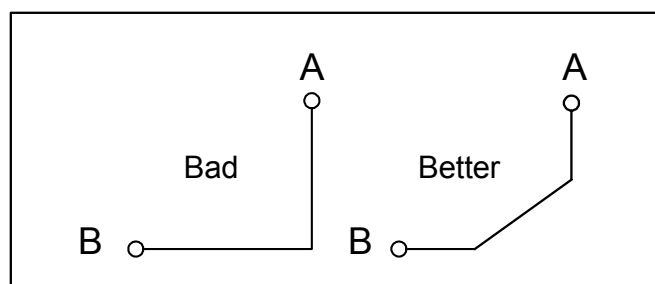

Figure 1. Signal Trace Angles
- Ninety-degree trace angles should be avoided. We recommend that the traces turn at 45° angles as shown in Figure 1. Sharp edges may add unexpected parasitic effects into the circuitry. Reducing the trace length will reduce trace inductance during quick energy bursts
- Avoid right angle signal traces. Ninety-degree trace corners should be avoided. We recommend that the traces turn at 45° angles as shown in Figure 1 , page 4. Sharp edges may add unexpected parasitic effects into the circuitry. Reducing the trace length will reduce trace inductance during quick energy bursts.